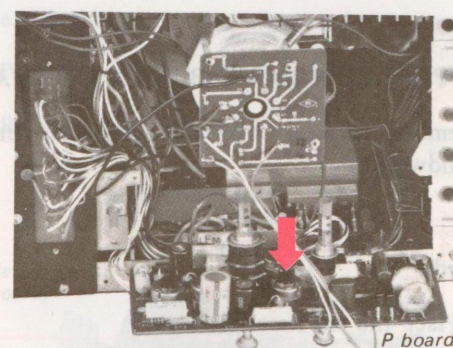

Fig. 2-23. P-board position for component access
2. Swing the top edge of the P board down until the board rests in a horizontal position as shown in Fig. 2-23.